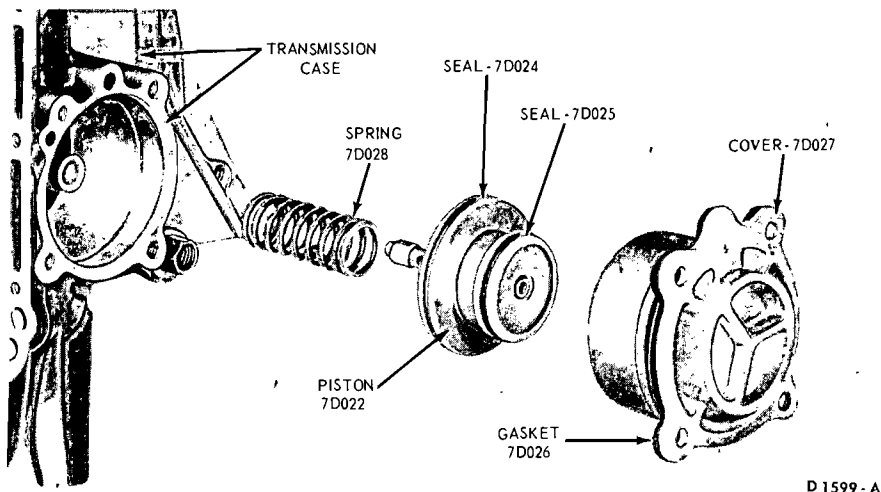

FIG. 24—Servo Disassembled
2. Remove the seals from the piston (Fig. 24).